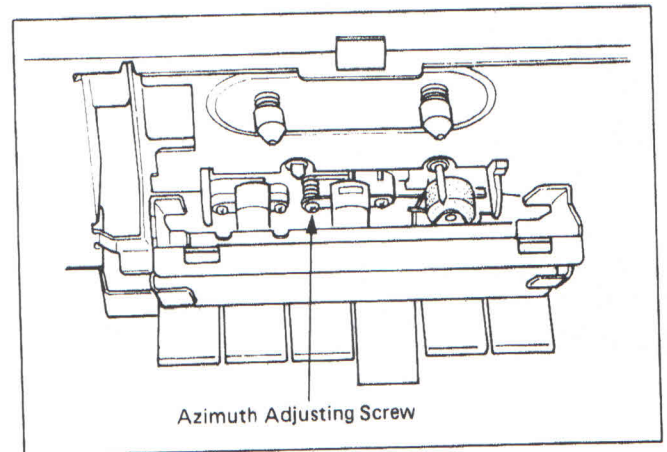
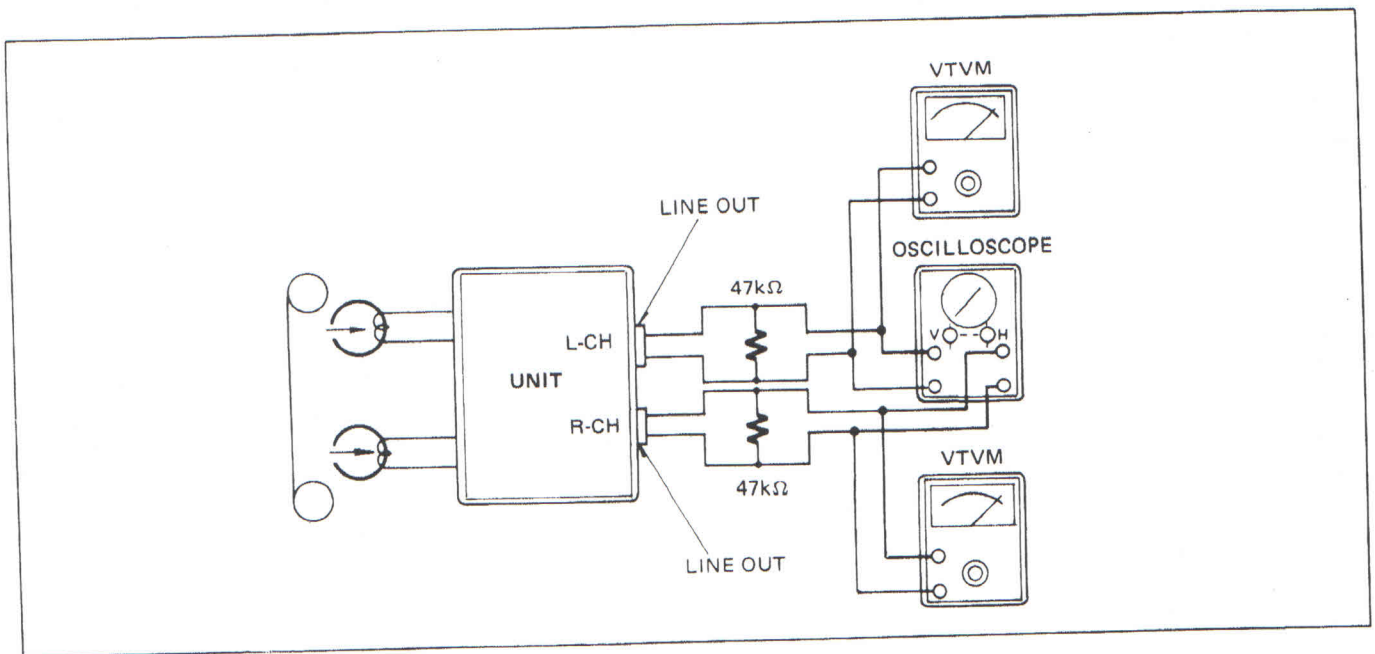

Fig. 3-6
Fig. 3-8
1. Set the test equipments as shown in Fig. 3-8.
2. Playback the test tape MTT-113 and adjust the azimuth adjusting screw (Fig. 3-6) for the maximum output on the VTVM for both L and R channels. (Fig. 3-8)